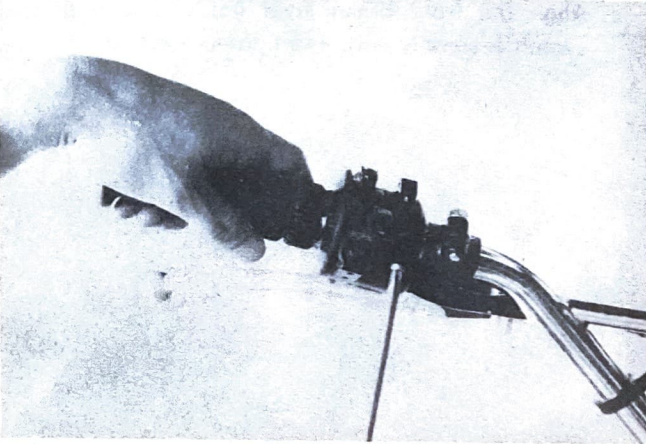

Fig. 19
b. Install the clutch lever holder on the left of the handlebar, then secure the handle switch assembly to the handlebar using the holding screws. (Fig. 19)